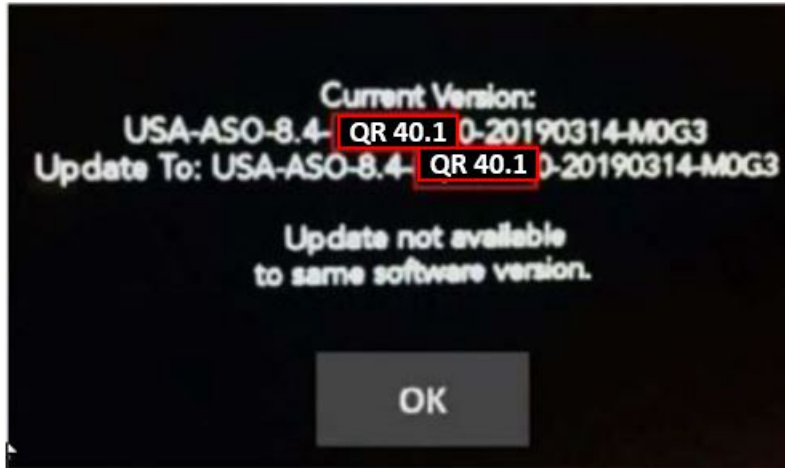

Fig. 9
15. After the update has completed, the radio will shut down. With the USB flash drive still inserted in the USB port, cycle the ignition back (if it was turn off) to the run position. If the radio software was updated correctly the “Current Version:” and the “Update To:” software levels in (Fig. 9) will display the identical software level. Press “OK” and remove the USB flash drive.